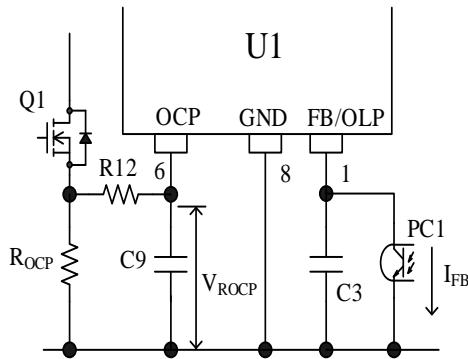
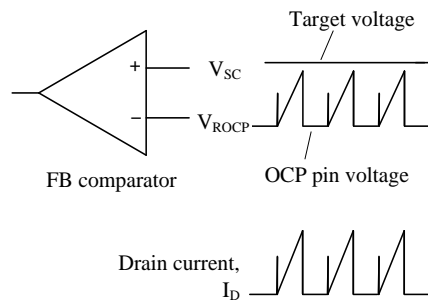

Figure 8-8. FB/OLP Peripheral Circuit
Figure 8-9. Drain Current,  $I_D$ , and FB Comparator Operation in Normal Operation
This IC compares the voltage,  $V_{ROCP}$ , of a current detection resistor with the target voltage,  $V_{SC}$ , by the internal FB comparator, and controls the peak value of  $V_{ROCP}$  so that it gets close to  $V_{SC}$ .  $V_{SC}$  is internally generated from the FB/OLP pin voltage (see Figure 8-8 and Figure 8-9).
- Add a CR filter with R12 and C9 to the OCP pin as shown in Figure 8-8.